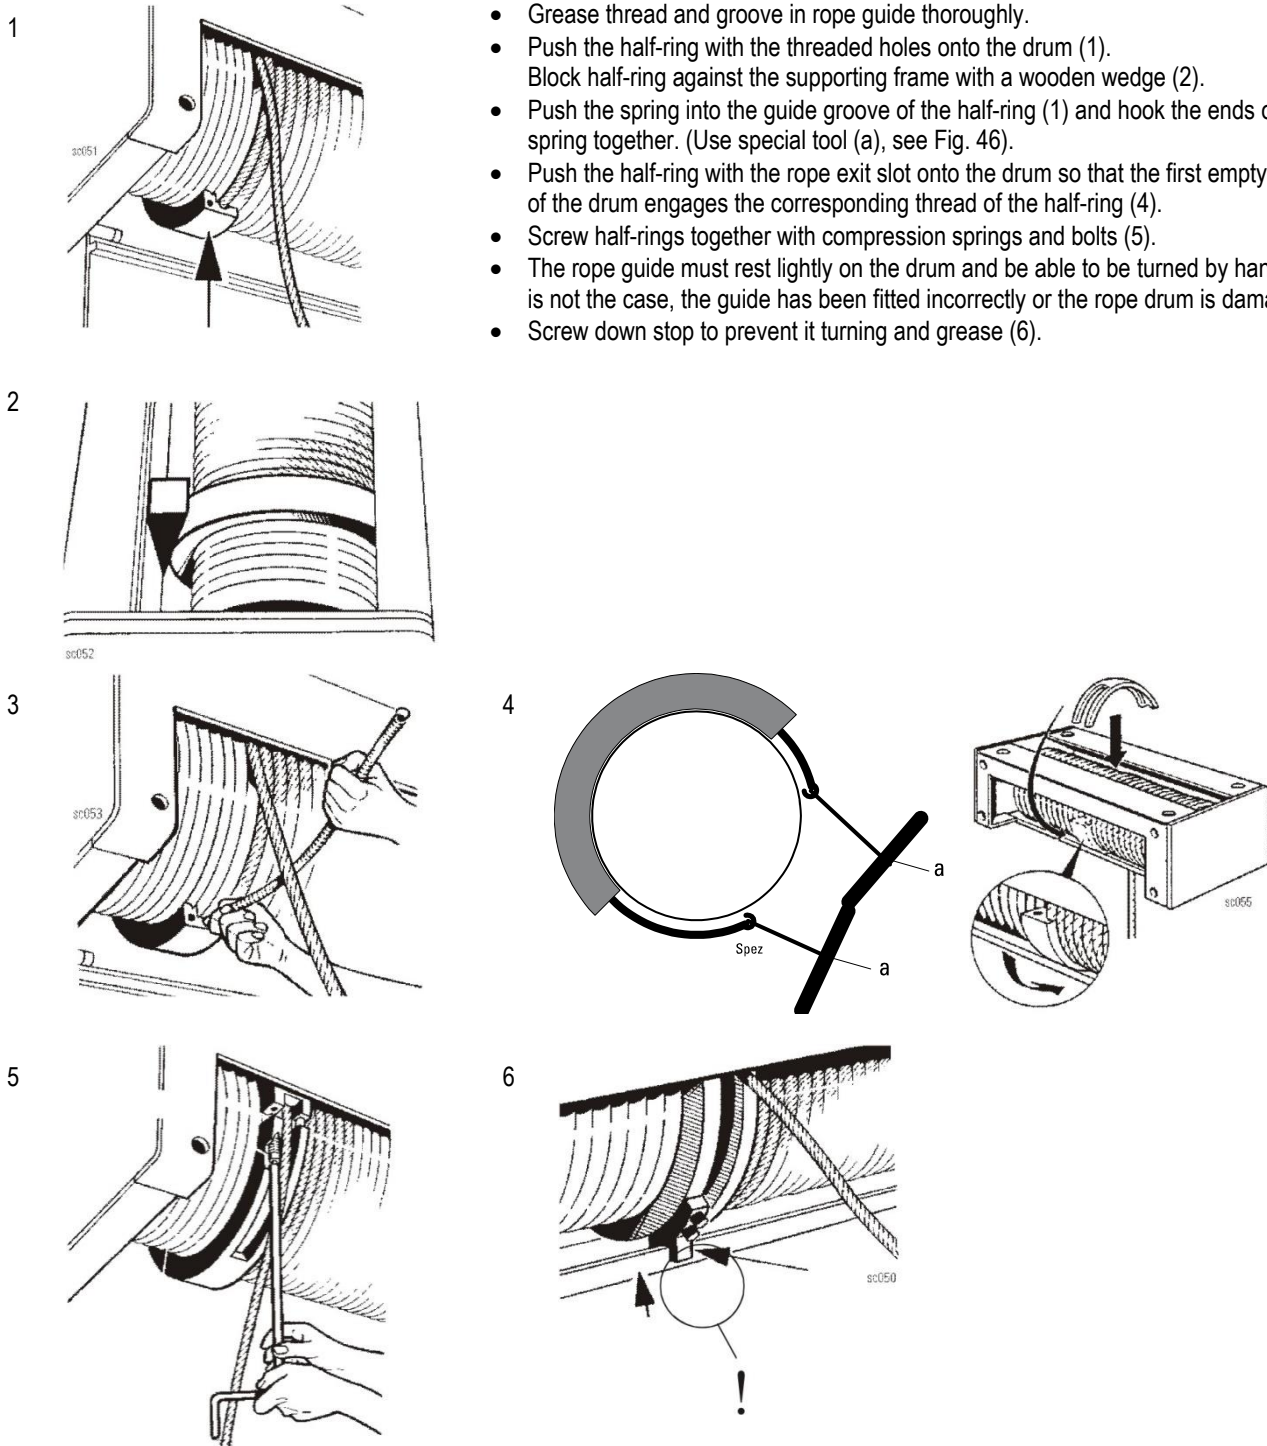

Fig. 46
- Push the spring into the guide groove of the half-ring (1) and hook the ends of the spring together. (Use special tool (a), see Fig. 46).
- Push the half-ring with the rope exit slot onto the drum so that the first empty groove of the drum engages the corresponding thread of the half-ring (4).
- Screw half-rings together with compression springs and bolts (5).
- Screw down stop to prevent it turning and grease (6).